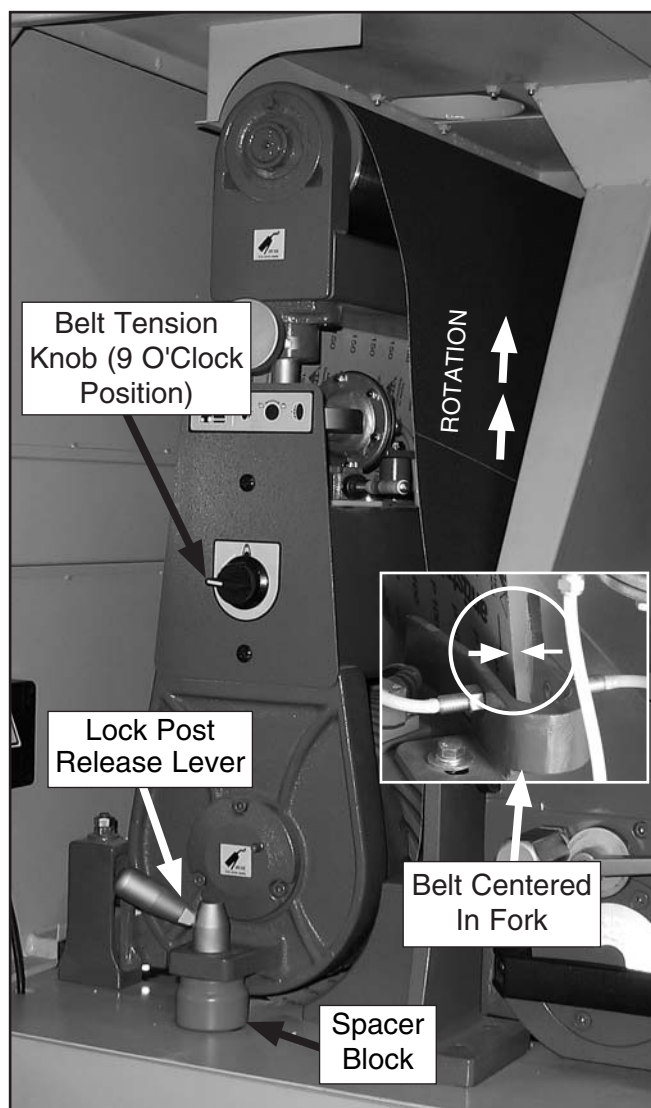

Figure 18. Components used when changing a sanding belt.
2. Remove the lock post release lever (**Figure 18**) by turning it counterclockwise a $\frac{1}{2}$ turn and pulling it up and out of the mounting hole.
3. Remove the spacer block (**Figure 18**).
4. Making sure the rotation arrows on the sanding belt point the same direction as those shown in **Figure 18**, install the sanding belt by starting first on the upper roller and then the lower roller.
Note: The sanding belt must be centered between the limit switches, and the edge of the sanding belt must be between the tongs of the belt oscillation controller fork, as shown in **Figures 18 & 19**. Damage to the sanding belt and sander will occur if the sander is turned **ON** before the sanding belt is correctly positioned.